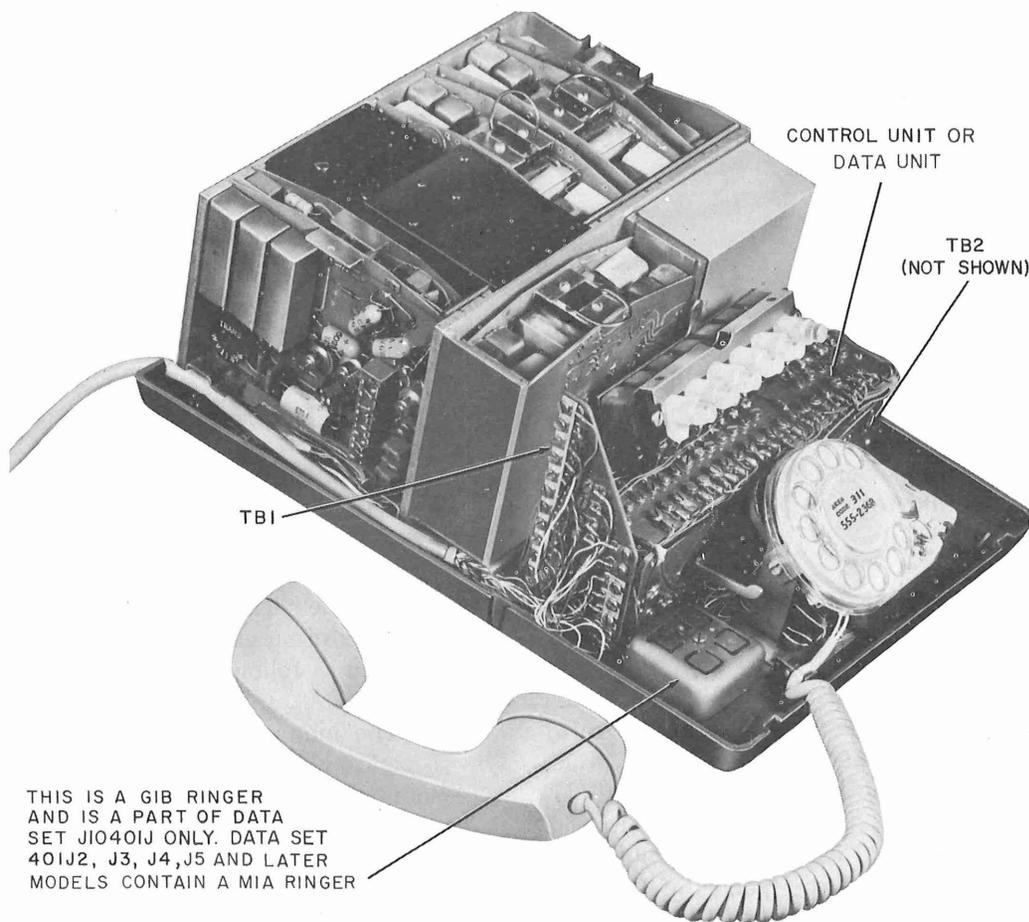
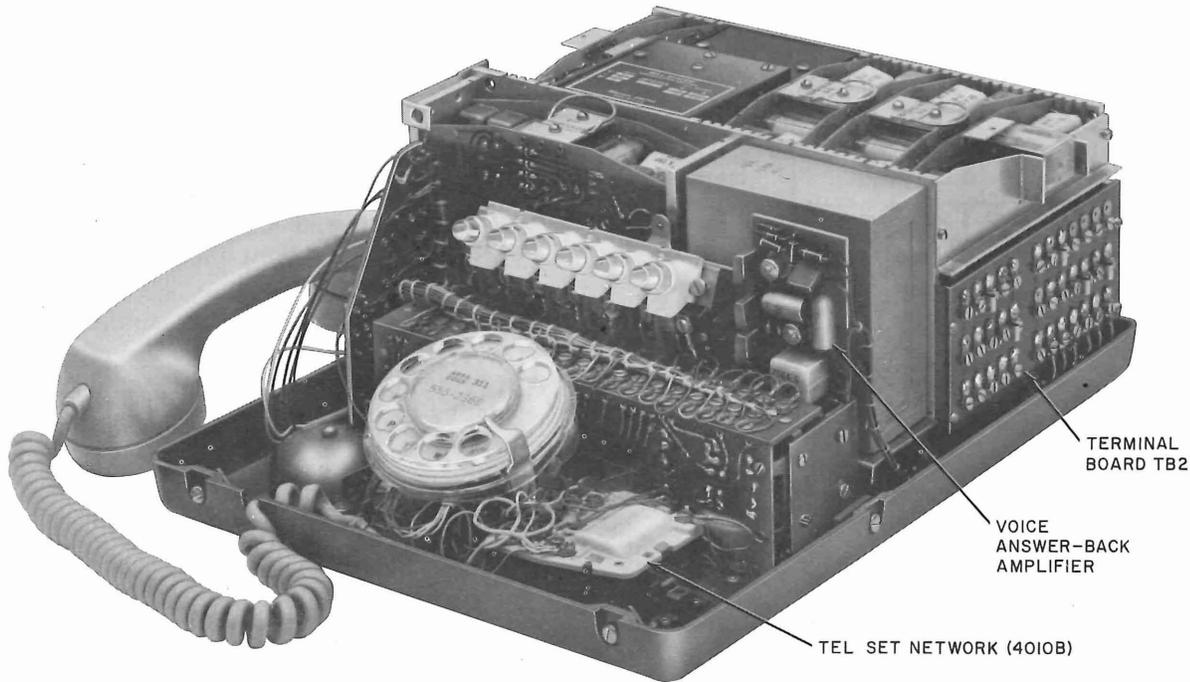

Fig. 2—Data Set 401J, Inside View
Fig. 3—Data Set 401J3 and 401J7, Inside View
- (b) Connect the necessary options as shown in either Table A or Table B on terminal boards TB1 (see Fig. 2) and TB2 (see Fig. 3 and 4), and on the 58A control unit or the 3A3 data unit, depending on the data set code.
- (1) Remove the data set covers.
- (2) Remove the following leads from terminals on the telephone set network of the data set (see Fig. 3):
- Yellow and slate (Y)(S) leads from terminal F
- White (W) lead from terminal G
- Green (G) lead from terminal L2
(3) Connect the following leads to the terminals on the telephone set network of the data set (see Fig. 3):
- Yellow and slate (Y)(S) leads to terminal G
- White (W) lead to terminal F
- Green (G) lead to terminal L1
(4) Replace the data set covers.